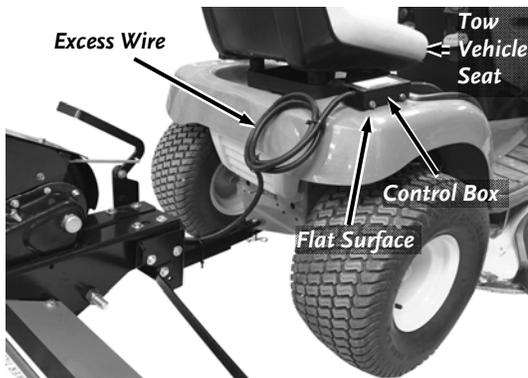

Figure 10
- Position the Control Box on your Tow Vehicle within reach of the seated Tow Vehicle driver (**Figure 10**).